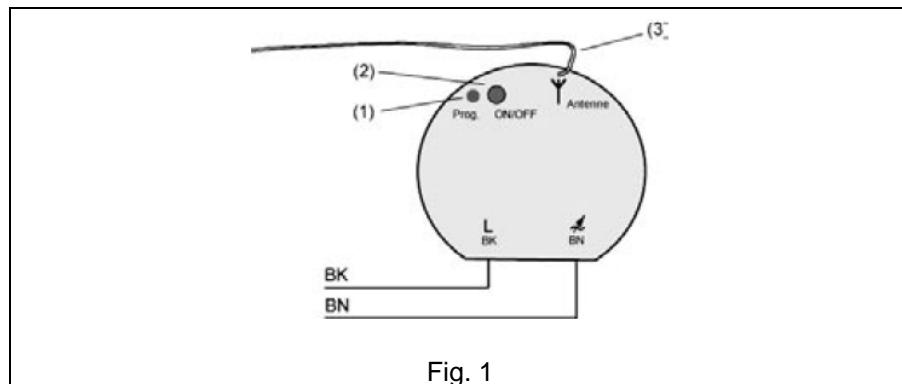

Fig. 1
- Press the programming button (2) briefly (Fig. 1).
- Press the programming button (2) longer than 4 s (Fig. 1).